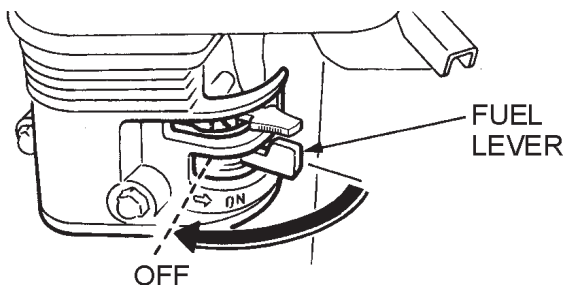

Figure 32. Fuel Valve Lever (Off Position)
4. Place the fuel valve lever (Figure 32) to the **OFF** position.